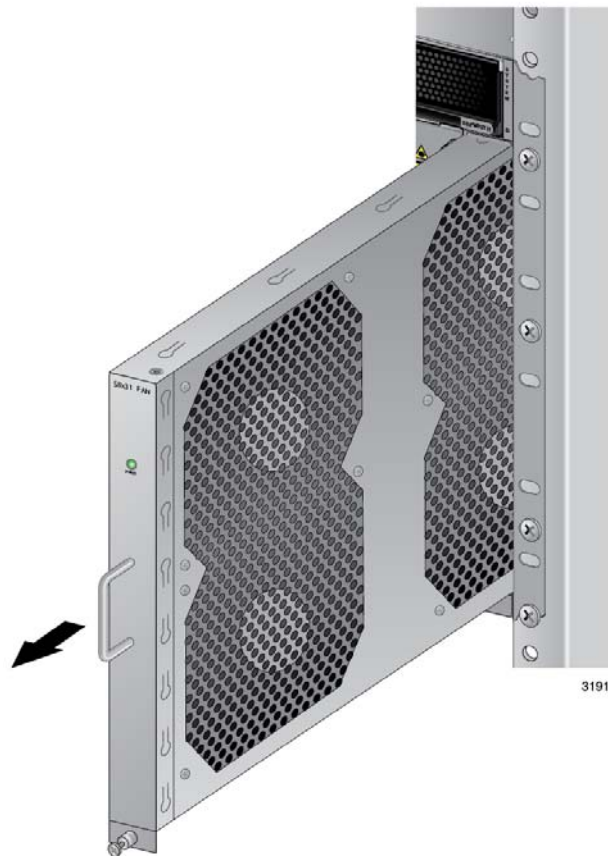

Figure 194. Removing the AT-SBxFAN12 Fan Module from the Chassis
9. After the fans have stopped, slide the module from the chassis. Refer to Figure 194 on page 321.